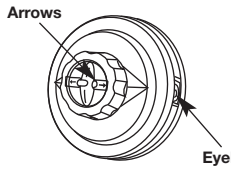

Fig. 14
1. Align the arrows on the bump knob with the spool cover eyelets, if they are not already (Fig. 14).